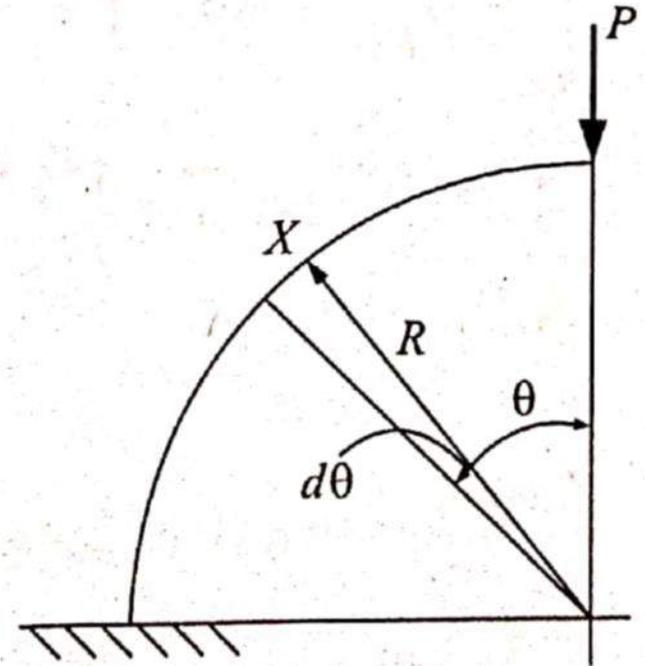

Figure 1: Cantilever curved beam
- Consider the section at 'x' as shown in Figure 1. The Bending moment at the section 'x' is